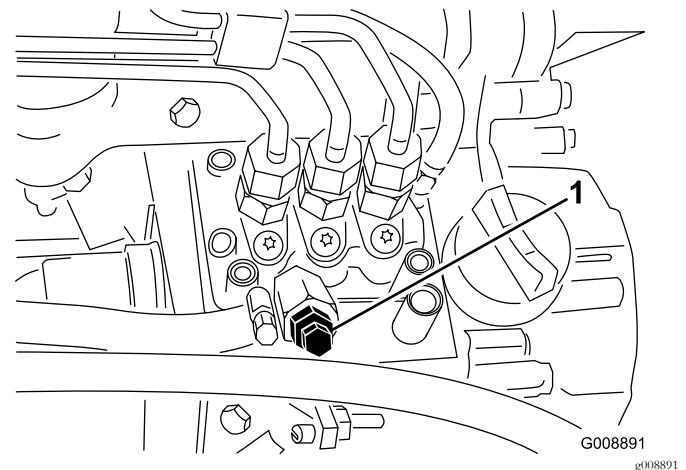

Figure 43
4. Open the air bleed screw on the fuel-injection pump (Figure 43).